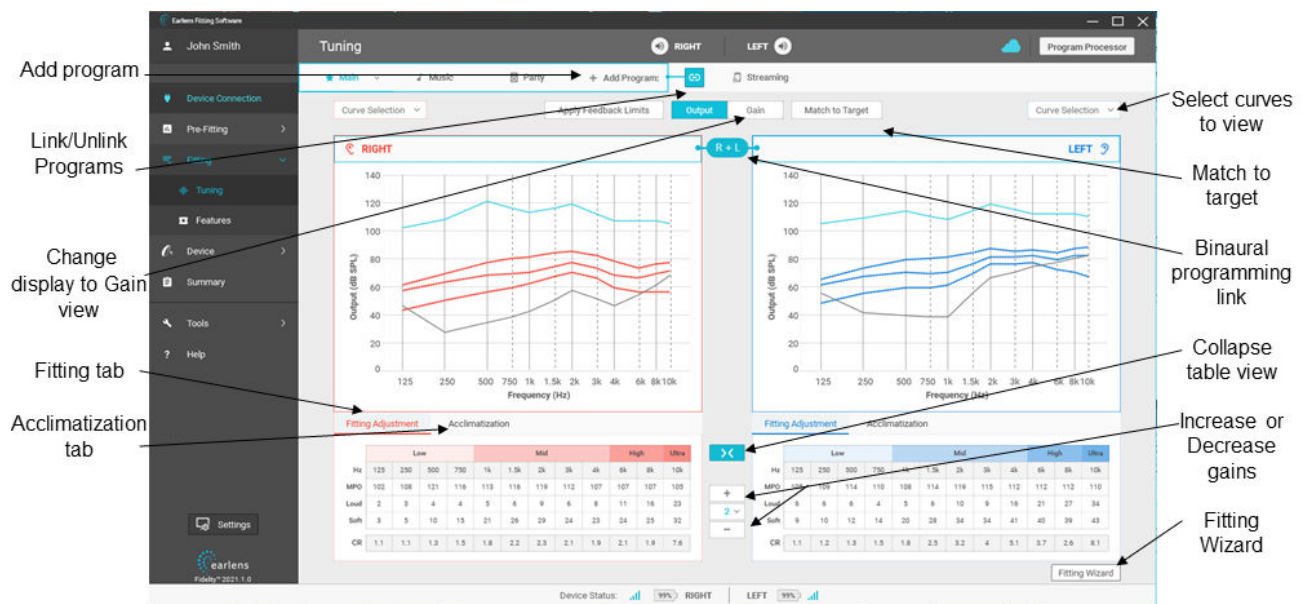
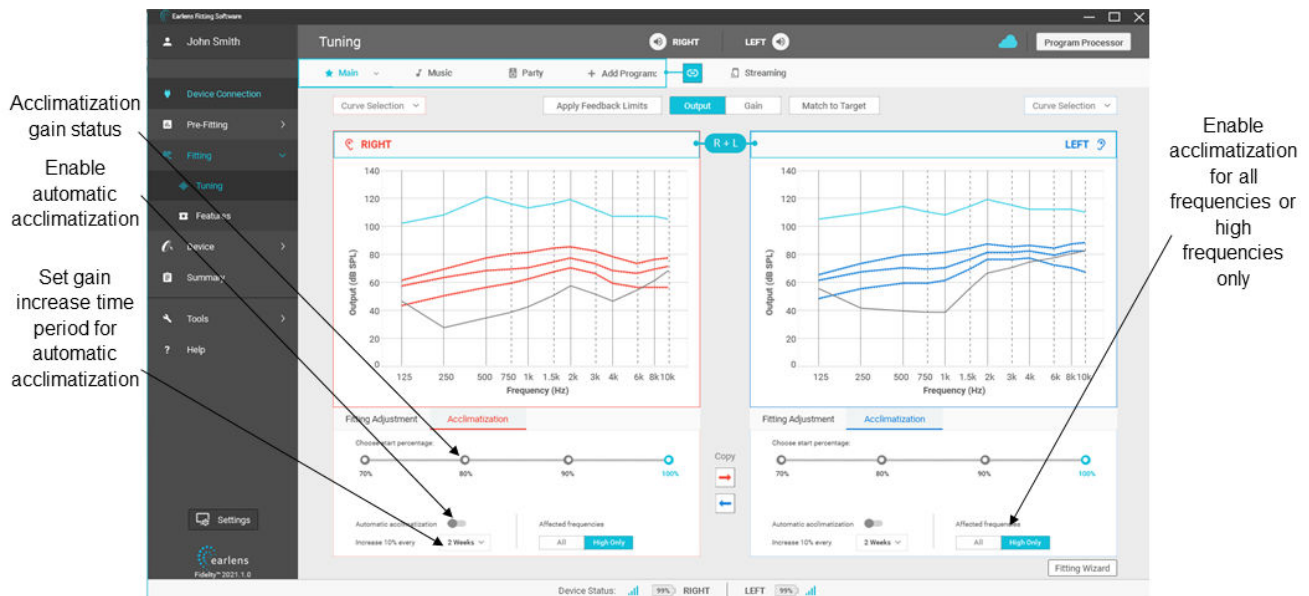

Figure 15: Tuning screen: Output view
Figure 16: Tuning screen: Acclimatization tab
- **Tuning:** Fine-tune the frequency response of the Processor (Figure 15) and access automatic or manual acclimatization (Figure 16).
- Earlens Fidelity™ software will measure the maximum gain before feedback by presenting a stimulus at a known level and measuring the response level and phase at the microphone. Results can be viewed in the Tuning screen by selecting the Gain Display option (Figure 15).
- Once measured, the software will automatically open to the Tuning screen (Figure 15).